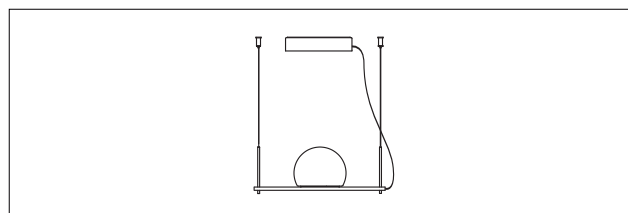
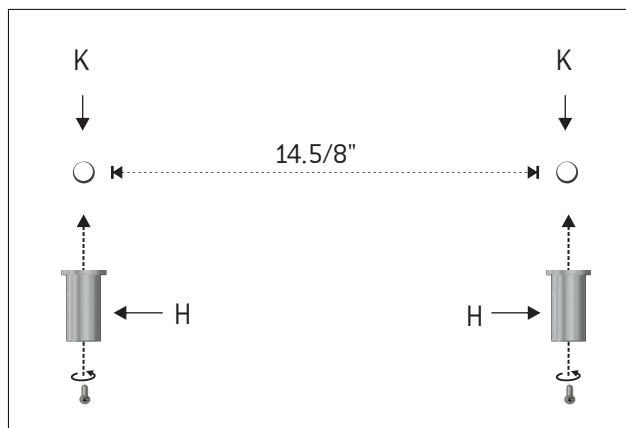
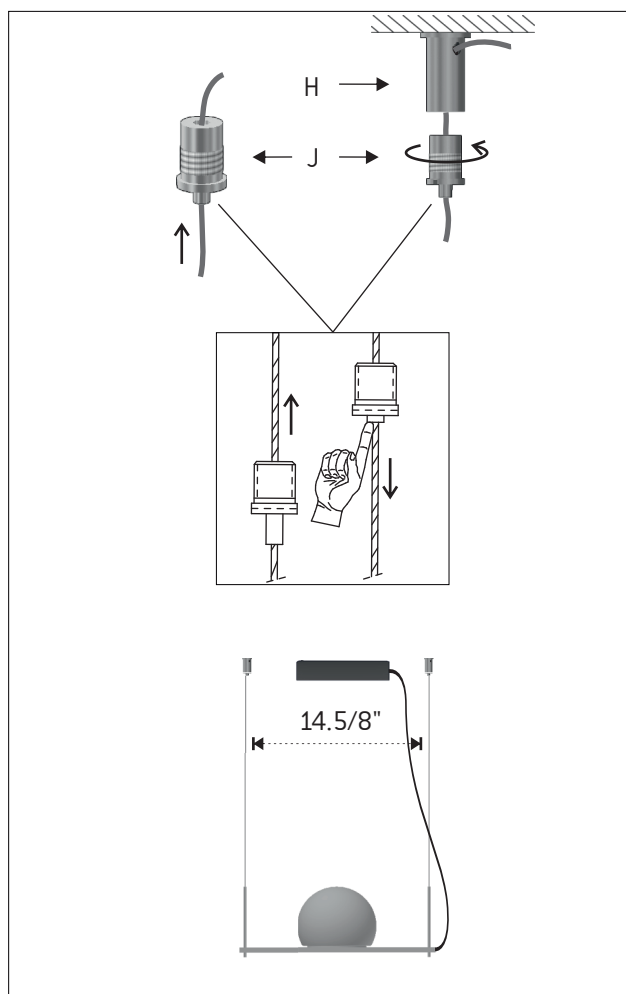

Figure 1A
Figure 5
Figure 6
- To be mounted facing up (figure 1A) go directly to step 5 (figure 5)
- 5 - Mark one spot (K) on the ceiling at a distance of 14.5/8" (372mm) between them and fix the tensors (H) in the mark. Figure 5. [See figure 6 to see the result]
- 6 - Insert the steel cables into the gripper supports (J) and then insert them through the side hole of the tensors (H). Again screw the gripper support to the tensor and adjust the cable to the desired length. Figure 6